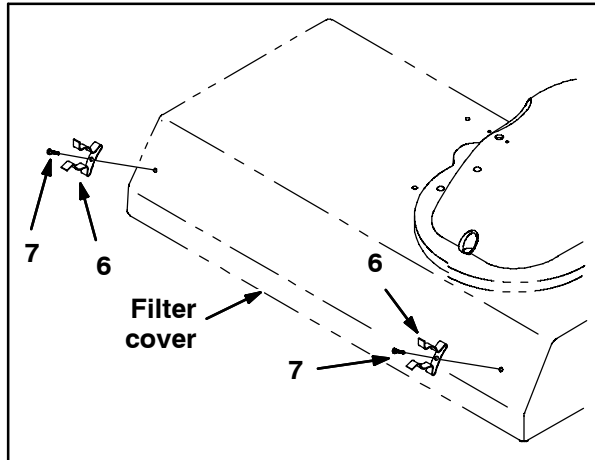

FIG. 7
11. Use a plastic pan screw (7) to install each clip (6) onto the filter cover. Refer to Fig. 7.